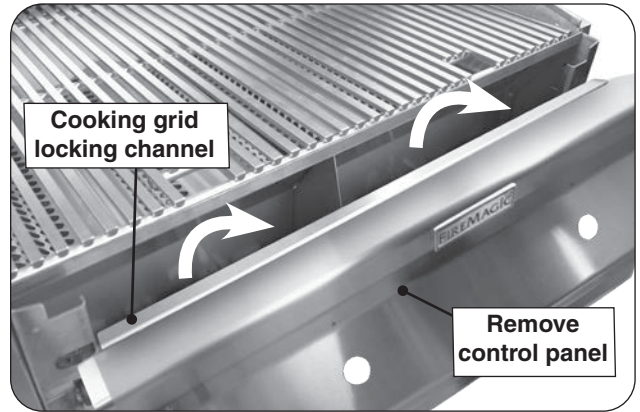

Fig. 32-1 Control panel / grid locking channel removal
2. Remove the control panel. Ensure the cooking grid locking channel is removed along with the control panel (see Fig. 32-1). See the CONTROL PANEL REMOVAL section for details.